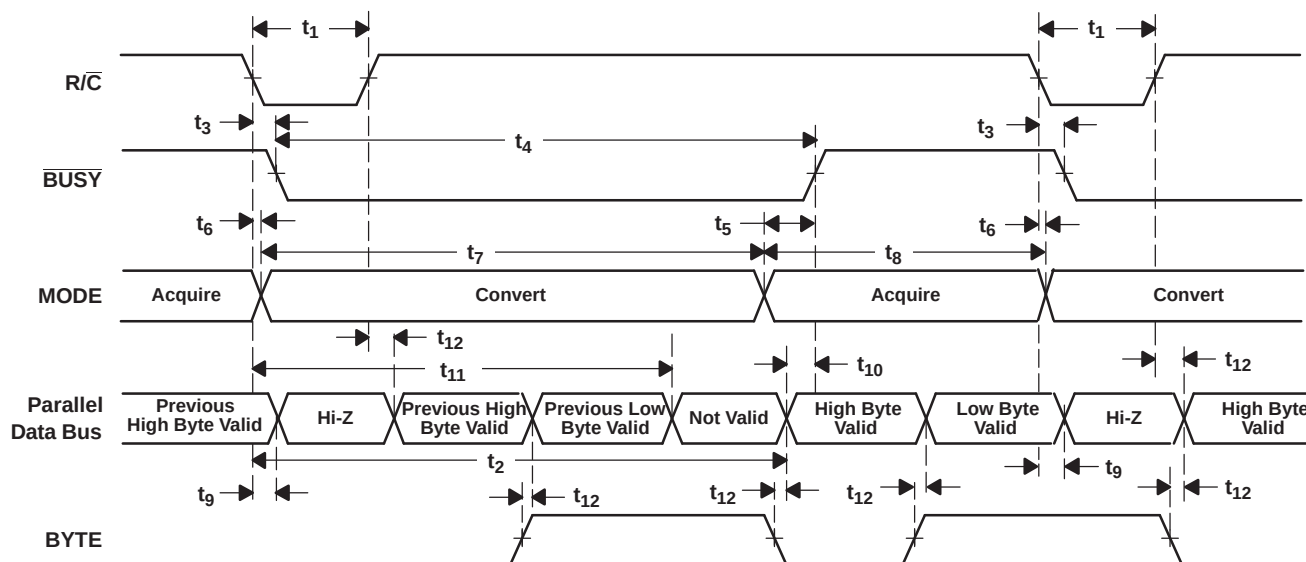
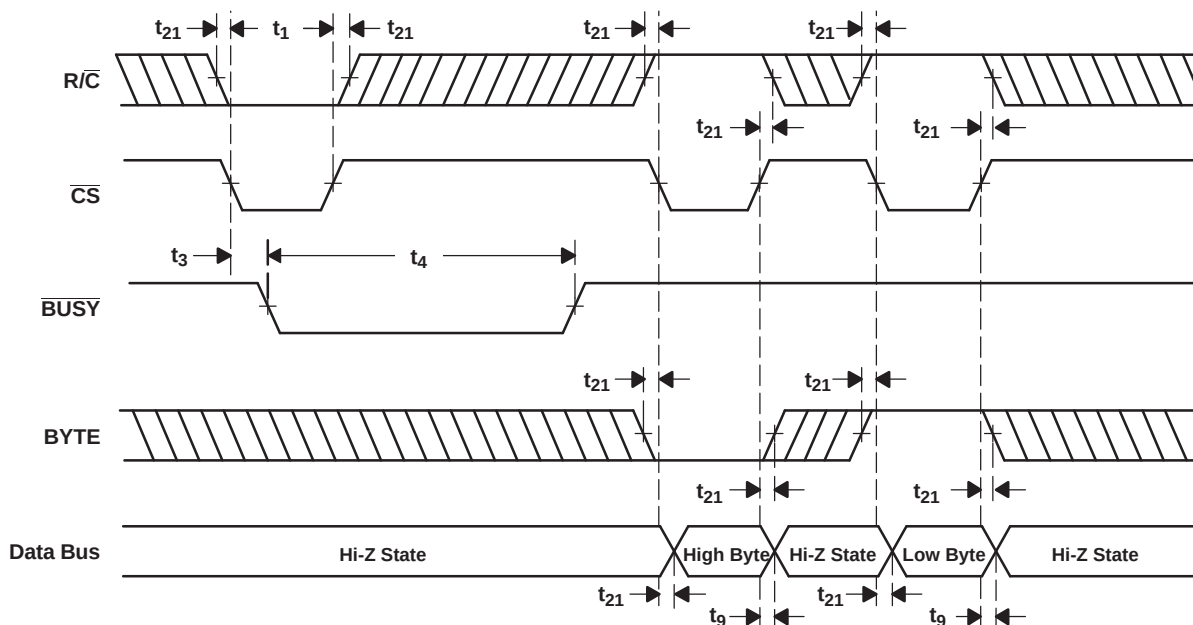

Figure 30. Conversion Timing With Parallel Output ($\overline{\text{CS}}$ and DATACLK Tied Low, EXT/INT Tied High)
Figure 31. $\overline{\text{CS}}$ to Control Conversion and Read Timing With Parallel Outputs
The ADS8517 begins tracking the input signal at the end of the conversion. Allowing 5 μs between convert commands assures accurate acquisition of a new signal. Refer to Table 2 and Table 3 for a summary of $\overline{\text{CS}}$, $\overline{\text{R/C}}$, and $\overline{\text{BUSY}}$ states, and Figure 30 through Figure 36 for timing diagrams.
(1) See Figure 30 and Figure 31 for constraints on data valid from conversion $N-1$.
After conversion N is completed and the output registers have been updated, $\overline{\text{BUSY}}$ (pin 24) goes high. Valid data from conversion N are available on D7-D0 (pin 9-13 and 15-17). $\overline{\text{BUSY}}$ going high can be used to latch the data. Refer to Table 5, Figure 30, and Figure 31 for timing specifications.
After conversion N has been initiated, valid data from conversion $N-1$ can be read and are valid up to $2.2\ \mu\text{s}$ after the start of conversion N . Do not attempt to read data beyond $2.2\ \mu\text{s}$ after the start of conversion N until BUSY (pin 24) goes high; doing so may result in reading invalid data. Refer to Table 5, Figure 30, and Figure 31 for timing constraints.